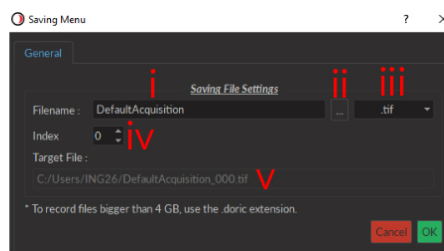

Figure 3.51: Saving Options Window
- i. The **Filename** box (Fig. 3.51) is used to define the recorded file name.
- ii. The **...** button (Fig. 3.51) opens a window used to choose the save file location.
- iii. The **File type** drop-down menu (Fig. 3.51) is used to decide which file type is used to save images. For files larger than 4 GB, the .doric extension is recommended.
- iv. The **Index** box (Fig. 3.51) displays the current index that will be added to the filename.
- v. The **Target File** box (Fig. 3.51) shows the full location and name of the file being saved when an image sequence is recorded.